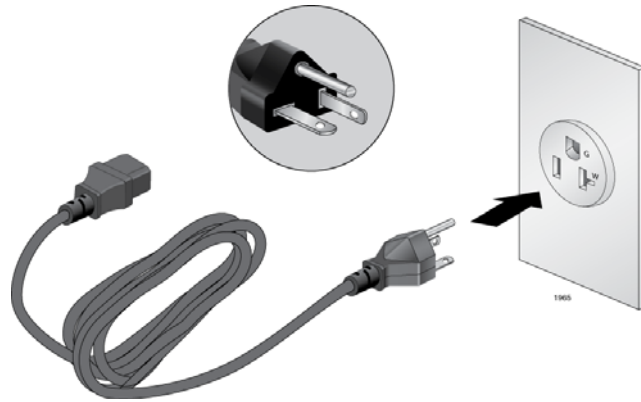

Figure 32. 100 - 125 VAC 125 V NEMA 5-20 Plug and Receptacle
- The power cords provided with the AT-SBxPWRSYS1 and AT-SBxPWRPOE1 Power Supplies for 100-125 VAC installations have 20 Amp, 125 V NEMA 5-20P plugs. The plugs are only compatible with NEMA 5-20R receptacles. See Figure 32 on page 99.